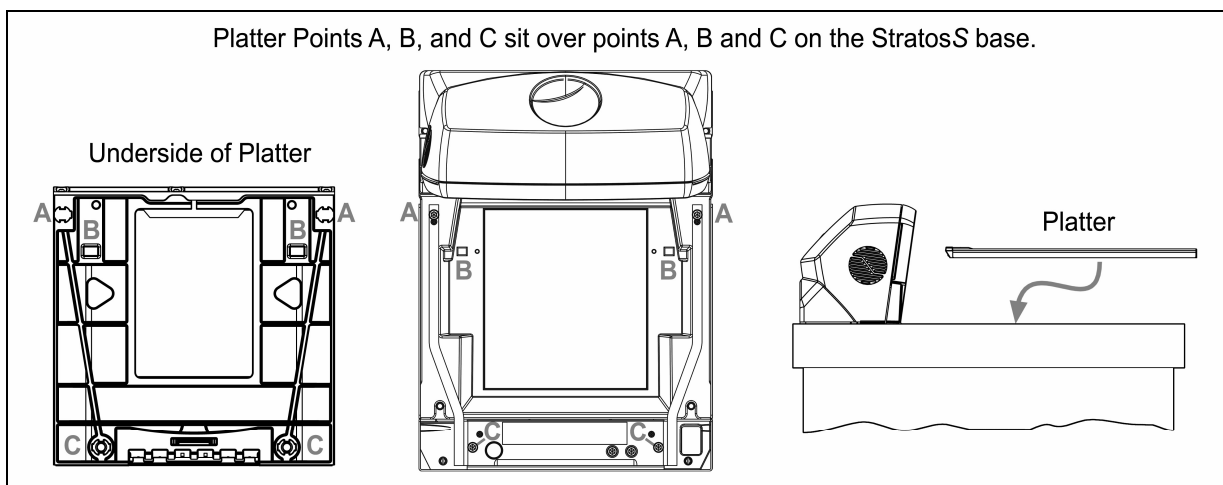

Figure 48. Platter Installation
4. Reinstall the platter onto the scanner/Diva scale (see *Figure 48*).